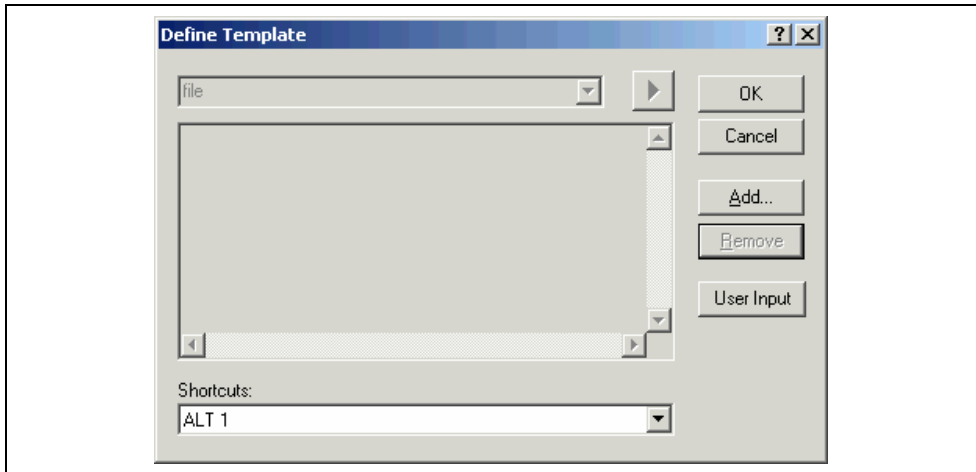

Figure 4.14: Define Template Dialog
1. Select [**Edit->Templates->Define Templates...**], select [**Templates->Define Templates...**] from the local menu, press **CTRL+T** or click on the define template toolbar button (). The dialog shown in figure 4.14 will be displayed.
1. Select [**Edit->Templates->Define Templates...**], select [**Templates->Define Templates...**] from the local menu, press **CTRL+T** or click on the define template bookmark toolbar button (). The dialog shown in figure 4.14 will be displayed.